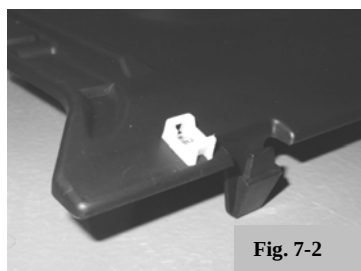

Fig. 7-2
- (c) Rivet the (2) plastic saddles to the cover as shown. (Fig. 7-2)